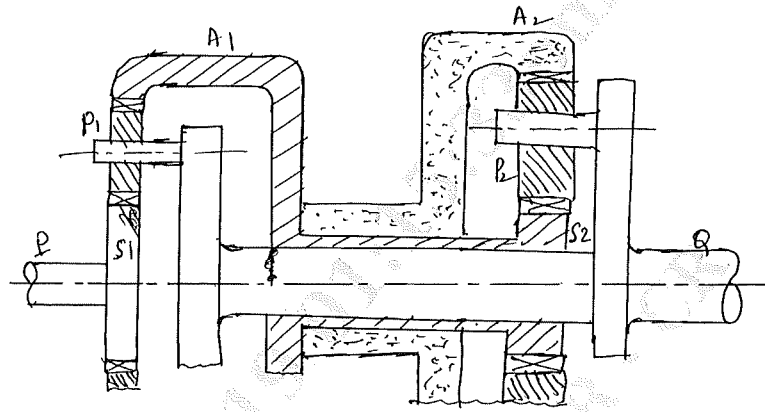

Fig.Q.7(b)
- b. Fig.Q.7(b) shows the arrangement of wheels in a compound epicyclic gear train. The sun wheel S_2 is integral with the annular wheel A_1 . The two arms are also integral with each other. The number of teeth on the wheels are as follows: